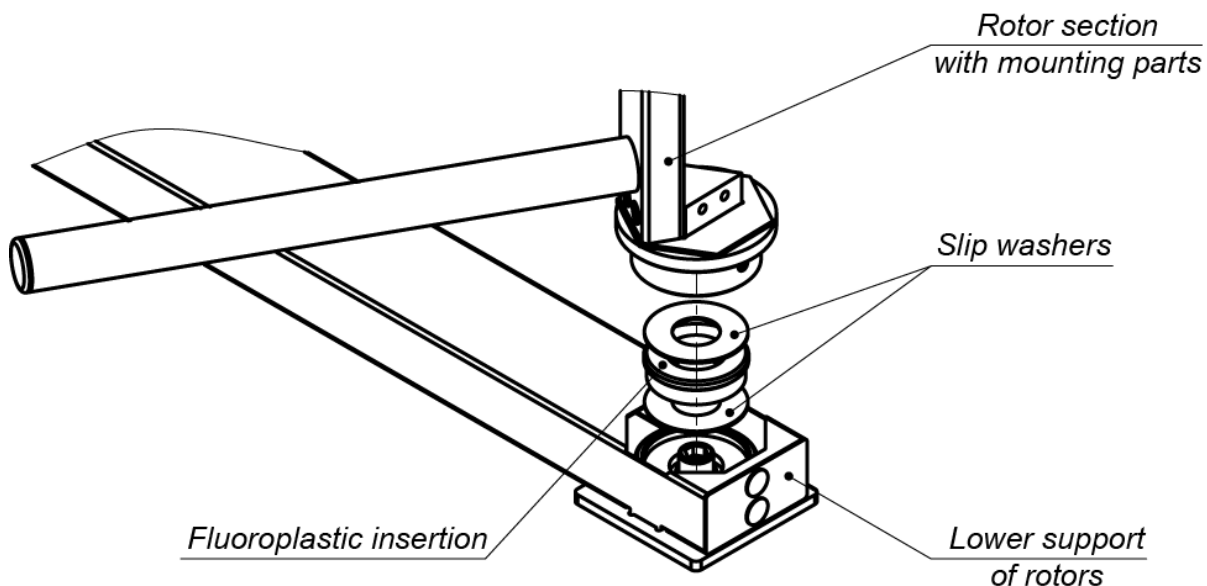
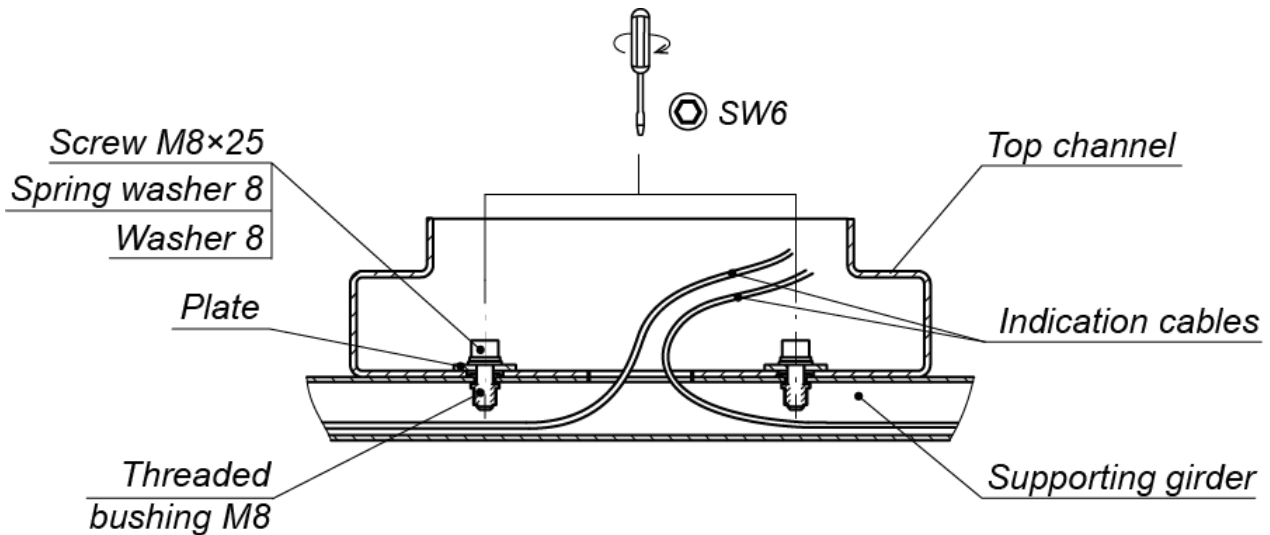

Figure 14. Bottom rotation unit
Figure 17. Top channel to supporting girder fastening
11. Assemble the bottom bearing rotation units (3) in the supporting flanges of the lower support (Fig. 14). Two slip washers and the fluoroplastic insertion placed between them must be situated in the assembly unit avoiding any misalignment and rest on the entire bearing surface symmetrically in respect to the rotor axis (the top thrust washer is glued to the rotor shaft). Herewith, the smooth surfaces of slip washers must be directed at the insertion. The slipping surfaces may be treated with molybdenum grease.
- Fix the top channel to the supporting girders (7) and to the top girder of the divider (8) with six bolts M8×25 and the key SW6, using two plates from the delivery set (Fig. 17). Do not tighten the bolts for later adjustment.
17. Mount the OD rotors (1) (Don't work alone!), each in the following order:
- Unpack rotor sections (1) (box №2 – rotor 1, box №3 – rotor 2).
- Use cylindrical shank to install the rotor section with mounting parts in the bottom rotation unit (3) (Fig. 14), first bring it into the unit at a slight angle to the surface, then turn it into the vertical position.